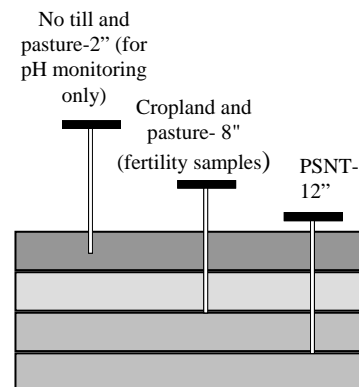

Figure 3: Sample to the correct depth.
- Sample to the correct depth (See *Figure 3*).